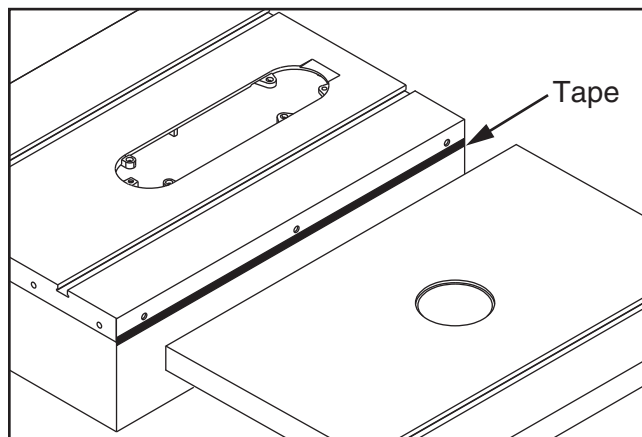

Figure 15. Using tape to shim router table up.
- If outside edge of router table wing tilts down, remove wing and place strips of masking tape along *bottom* edge of extension wing to shim router table up and even with table saw from side to side (see **Figure 15**).